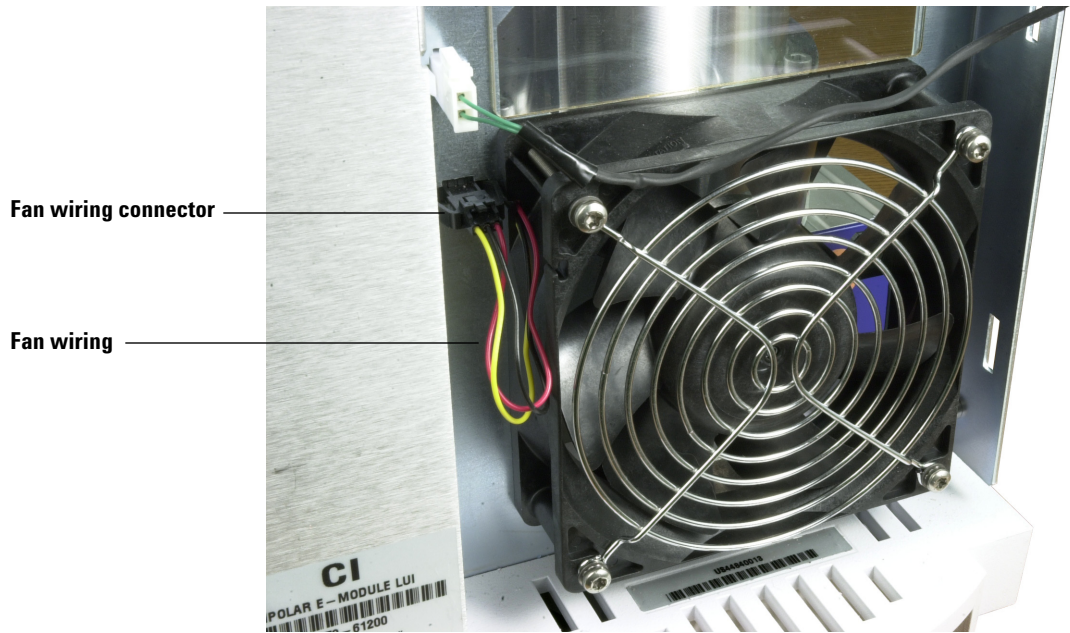

Figure 14 Replacing the pump fan (turbo pump shown)
- 3 Disconnect the fan wiring from the connector on the MSD frame (Figure 14).